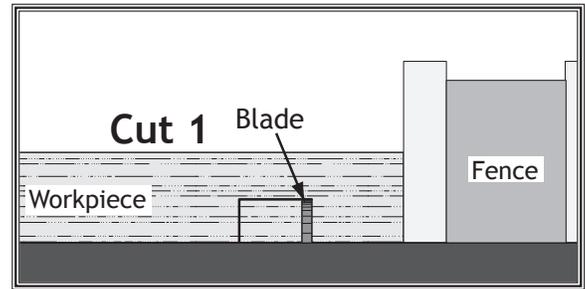

Figure 64. First cut for a single-blade dado.
5. Align blade to cut one side of dado, as shown in Figure 64.